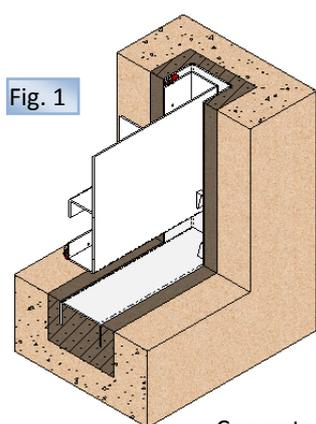
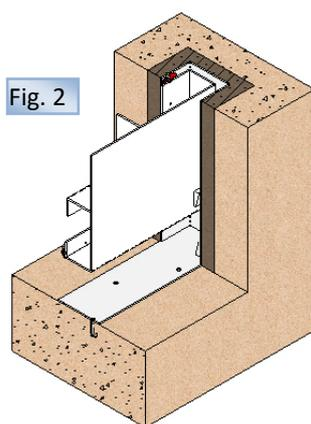

Fig. 1
Fig. 2
The most common system is to concrete these penstocks (**fig. 1**), although there are other assembly options, as seen in **fig. 2 and 3**.
- Proceed as follows to mount the concreted penstock (fig.1):